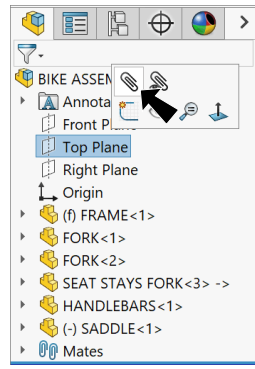

Fig. 36
Step 1. Click **Top Plane**  in the Feature Manager and Mate  on the context toolbar, **Fig. 36**.